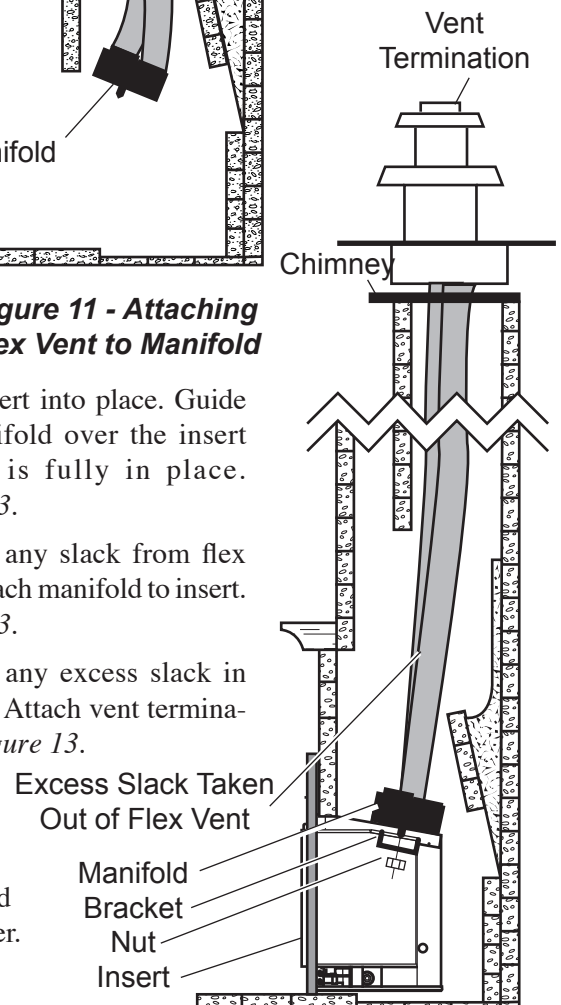

Figure 13 - Sliding Insert Into Place
6. Slide insert into place. Guide the manifold over the insert until it is fully in place. Figure 13.
7. Remove any slack from flex vent. Attach manifold to insert. Figure 13.
8. Remove any excess slack in flex line. Attach vent termination. Figure 13.